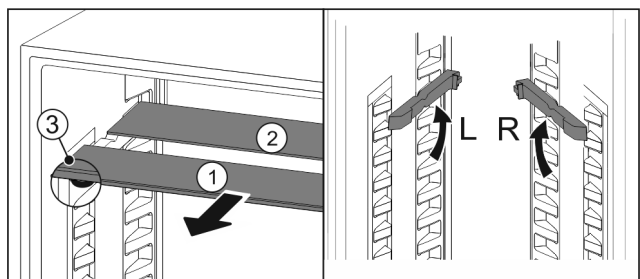

Fig. 88
- ▶ Pull the glass panels out Fig. 88 (1) from the front, one at a time.
- ▷ The glass panel Fig. 88 (1) and trim strip are at the front.
- ▷ The stops Fig. 88 (3) point down.